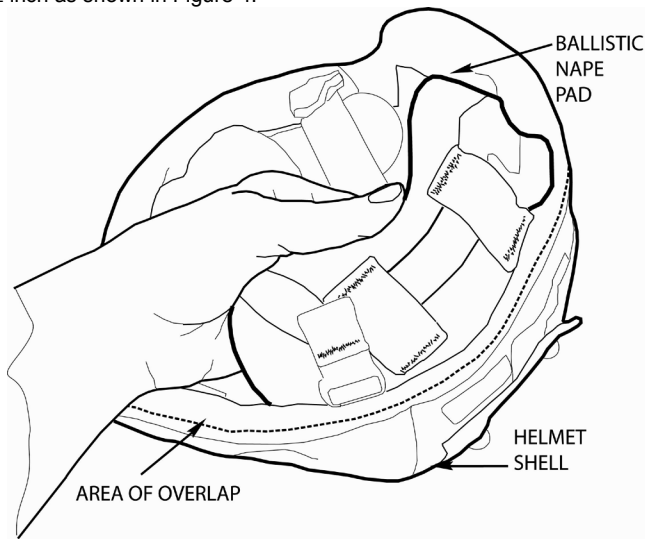

Figure 4. Fit Ballistic Nape Pad into Helmet Shell.
7. Slide the ballistic nape pad toward the helmet shell until shell and ballistic nape pad overlap by approximately $\frac{1}{2}$ inch as shown in Figure 4.